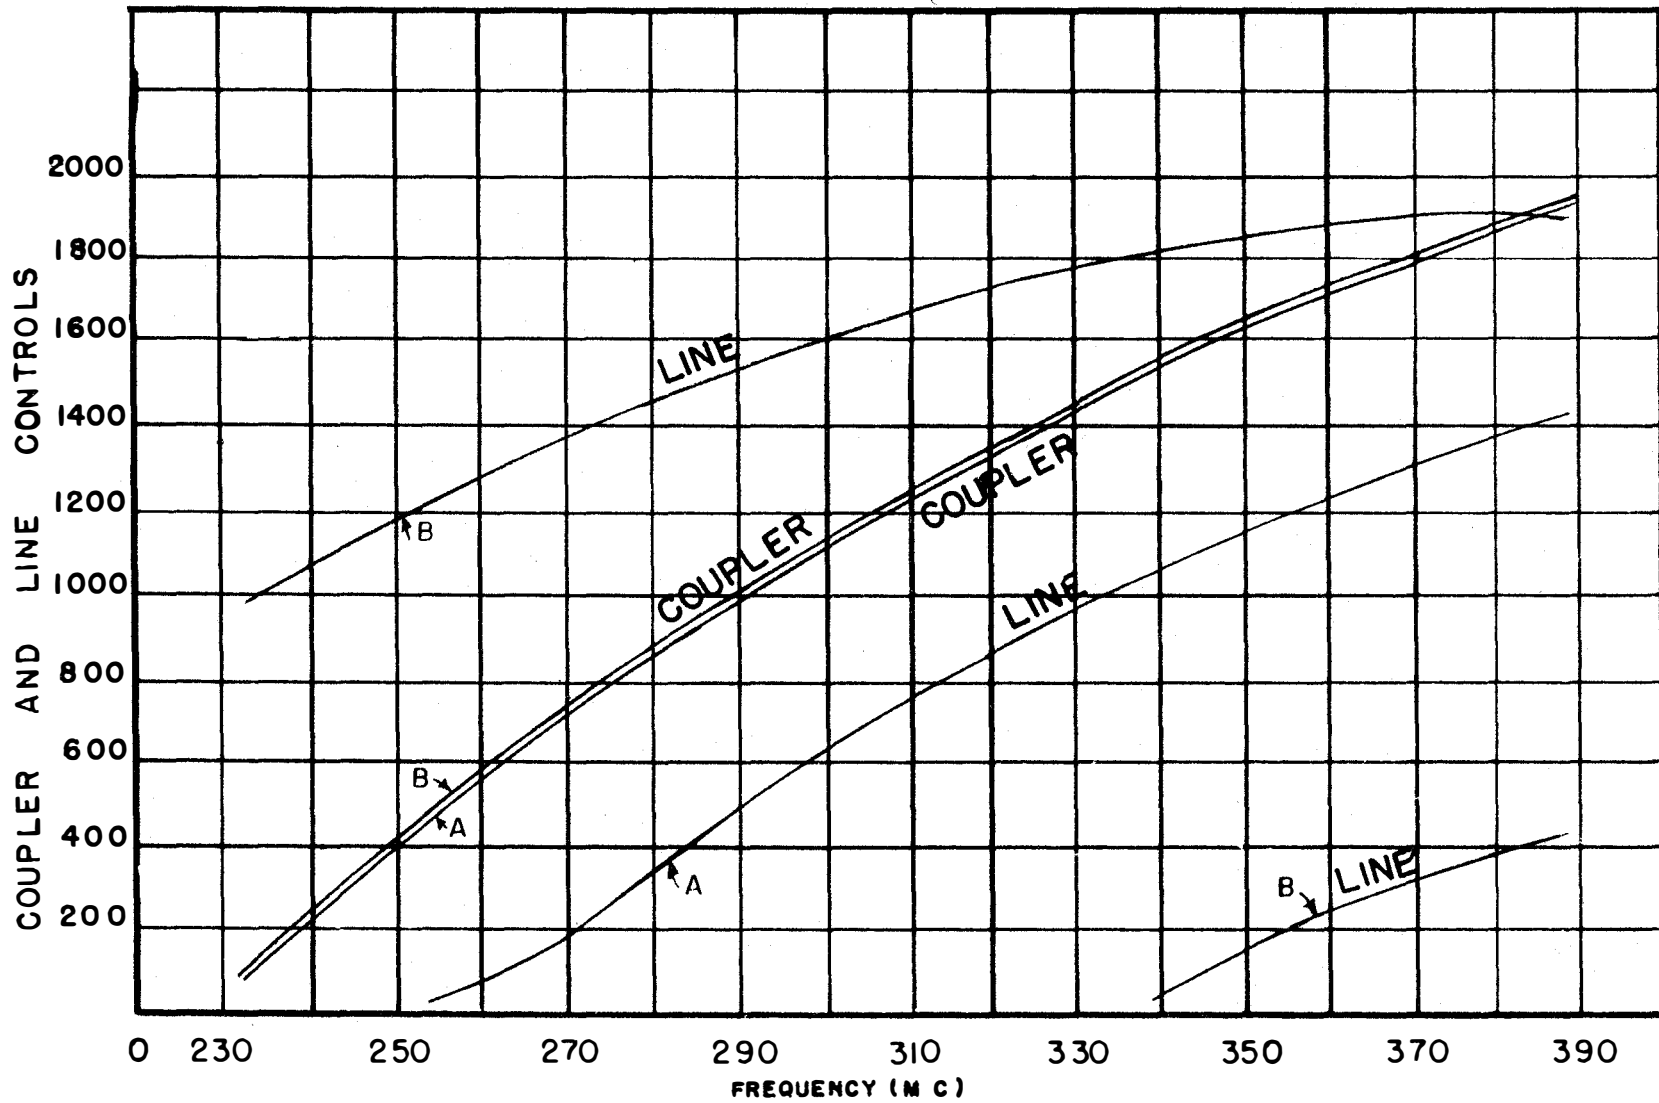

FIGURE 5-2 - TYPICAL CALIBRATION CURVES FOR COUPLER NO.1 (LEFT TO RIGHT)
- Step 4. Unlock the dial locks and set the Coupler approximately to the desired frequency. See figures 3-13. Consult the calibration curves of figures 5-2 to 5-7 and adjust to the corresponding reading on each counter. The "coupler" curve for setting the Coupler Tuning, is the same in each figure. The family of "line" curves, for setting the LINE TUNING, is different in each figure. The corresponding figure should be used by unit number, for each unit in any setup from one to six couplers. Coupler number one is always the unit with the shorting plate, the others number consecutively toward the antenna.
Step 7. Set the tuning dials of the Coupler approximately to the desired frequency. See figure 3-13. Consult the calibration curves of figures 5-2 to 5-7, and adjust each dial to the corresponding reading. The dial reading on the equipment is a combination of the "revolution counter" indication and the "tuning dial" indication; i.e. a reading of 13 on the small indicator and a reading of 97 on the large dial is a dial reading of 1397. The "coupler" curve in the figures is for setting the LINE TUNING, is different in each figure. The corresponding figures should be used by unit number for each unit in any setup from one to six Couplers. Coupler number one is always the unit with the shorting plate; the others number consecutively toward the antenna.
- Step 12. Set the controls of the Couplers to the desired frequency according to the calibration curves of figures 5-2.